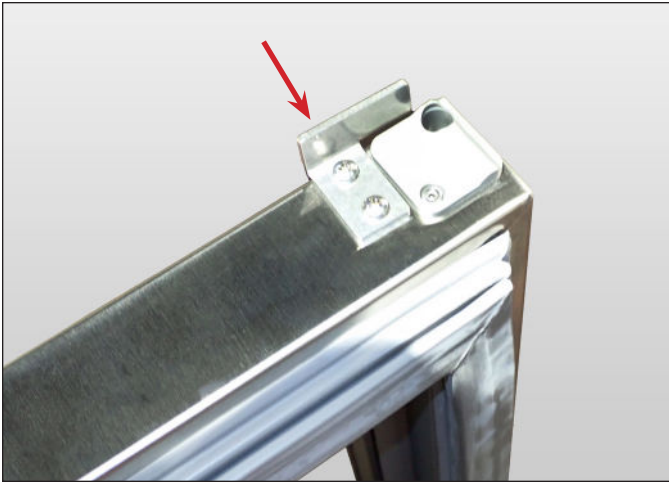

FIG. 4. Doorstop bracket installed on door.
4. Install the doorstop bracket on the door's bottom edge. See fig. 4.